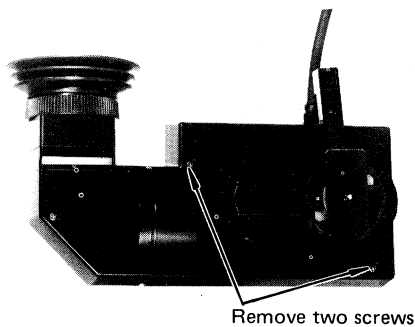
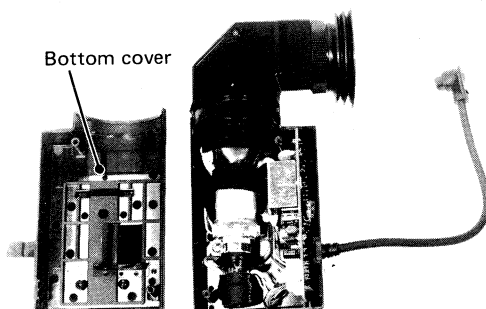

Fig. 2-2-3
Fig. 2-2-4
- Remove two screws from the bottom and remove bottom cover. (Fig. 2-2-3, Fig. 2-2-4)